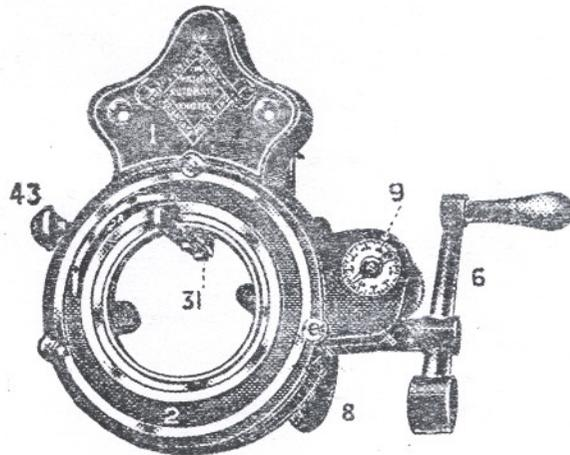

Fig. 3.
Fig. 3 shows the base of the "V. A." knitting machine with the cog ring (2) and dial adjusting post (31) in position.